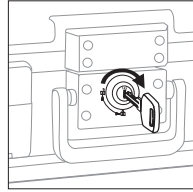

Figure 3
3. Turn the key clockwise to the right  $\frac{1}{4}$  turn (Figure 3).